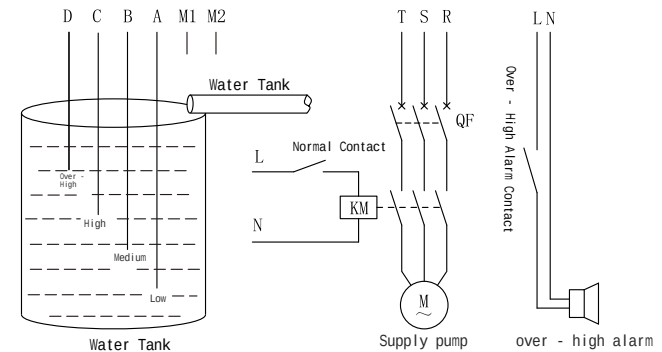

Figure 1
2. As shown in Figure 1: Leave terminals M1 and M2 (mode selection) unconnected. The operating logic is: When the water level is below "Medium": Normal water - supply contacts close (start the pump). When the water level rises to "High": Normal water - supply contacts release (stop the pump). When the water level further rises to "Over - High": Over - high alarm contacts close (trigger an alarm). When the water level drops below "High": The alarm is reset. When the water level further drops below "Medium": Normal water - supply contacts close again. This cycle repeats...
②